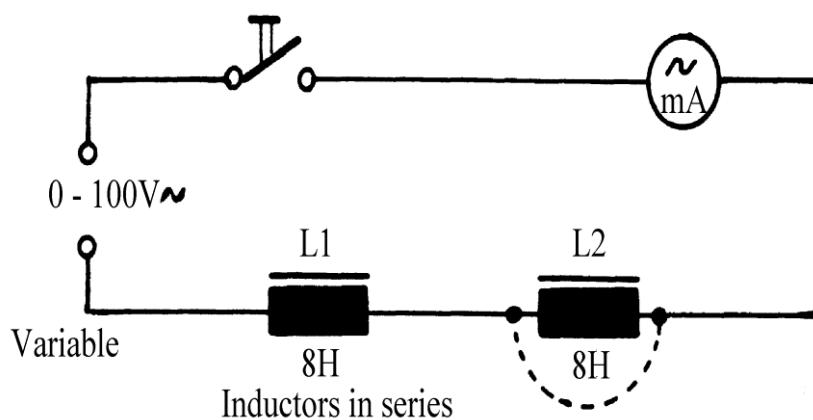

Figure 5
- Connect the circuit as shown in the circuit diagram (Fig. 5 on the next page) with the variable voltage on 0 volt.
- Now bridge either one of the two coils with a short length of wire, as shown by dotted lines in Fig. 5. This is the same as removing one of the coils i.e. there is only one coil left in circuit.